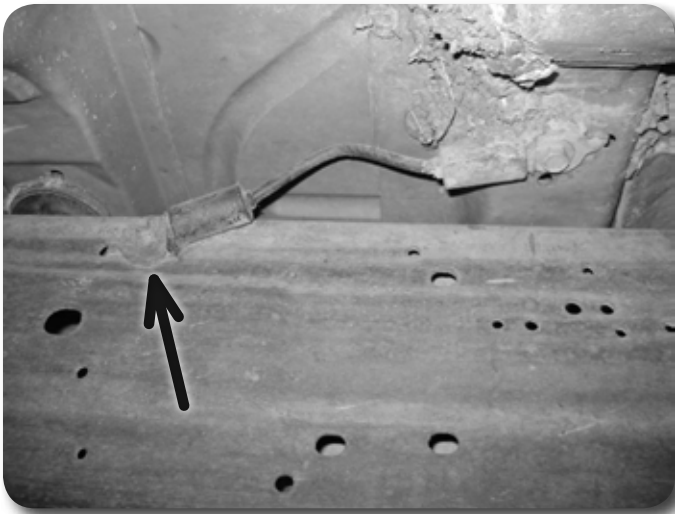

Figure 12
23. Remove the bolt that attaches the cab safety cables to the frame located under the driver's and passenger's doors. **Figure 12** They will be relocated after lifting. Save bolts.